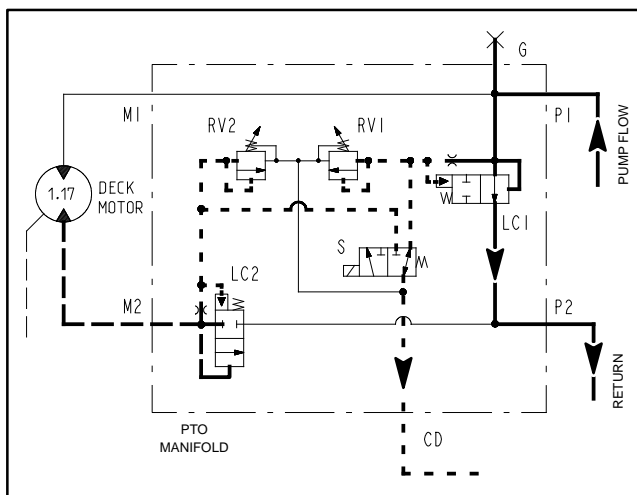

Figure 11
When the operator turns the PTO switch OFF or if a deck is raised with the PTO switch ON, PTO manifold solenoid valve (S) is de-energized causing bypass cartridge (LC1) to shift (refer to information in Mow Circuit in this section). This shifted cartridge allows oil return out manifold port P2. At the same time, solenoid valve (S) in its neutral position prevents any sense line flow through the spool which causes the brake cartridge (LC2) to shift to its neutral position blocking return flow from the deck motor and slowing the cutting blades (Fig. 11).